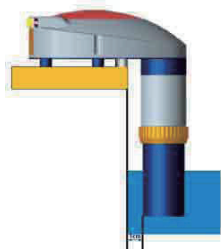

Fig 17-1
7.1 Our alarm can be adjusted to apply different water levels with submersible sensor tube, we suggest the gap 1-2cm between tube and pool wall (see Fig. 17-1/2).